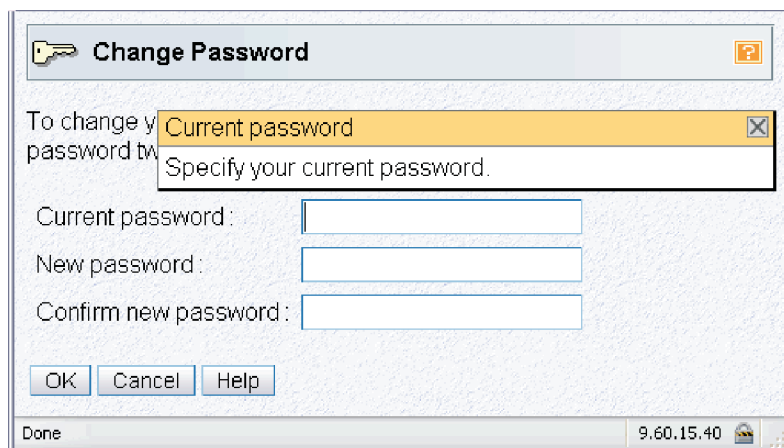

Figure 4. Context sensitive help enabled
2. Once context sensitive help is enabled the **i** in the upper right corner of the task window changes to an orange **?**. As you place your cursor over the input fields or selectable fields the abbreviated help text is displayed in a small box within the task window (see Figure 4 on page 6). Using the Tab key also allows you to view the help for each field. As you tab to each field, context sensitive help is displayed.